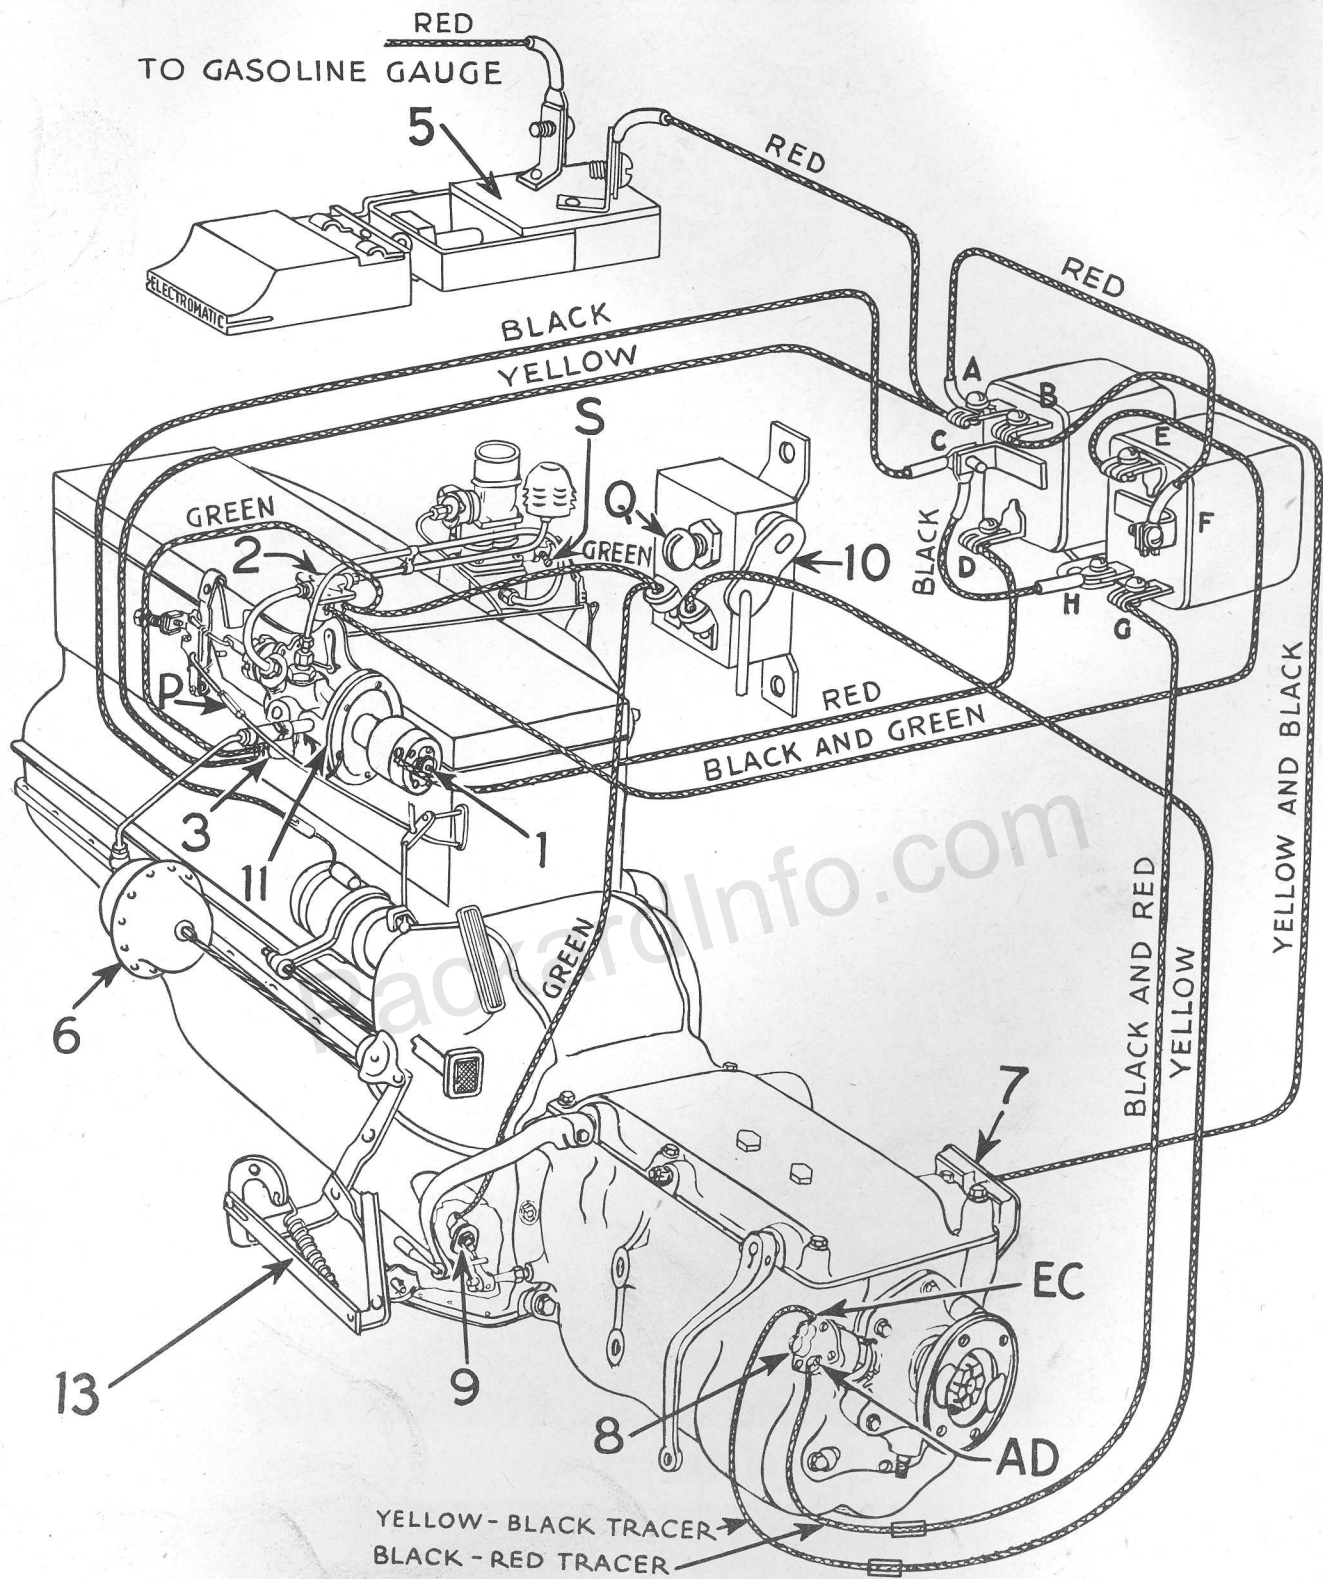
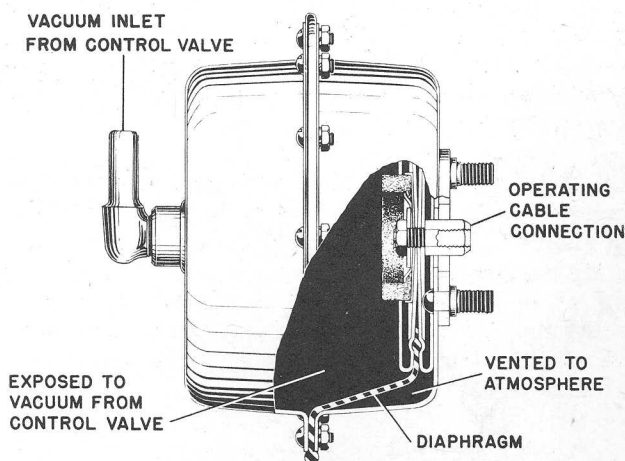
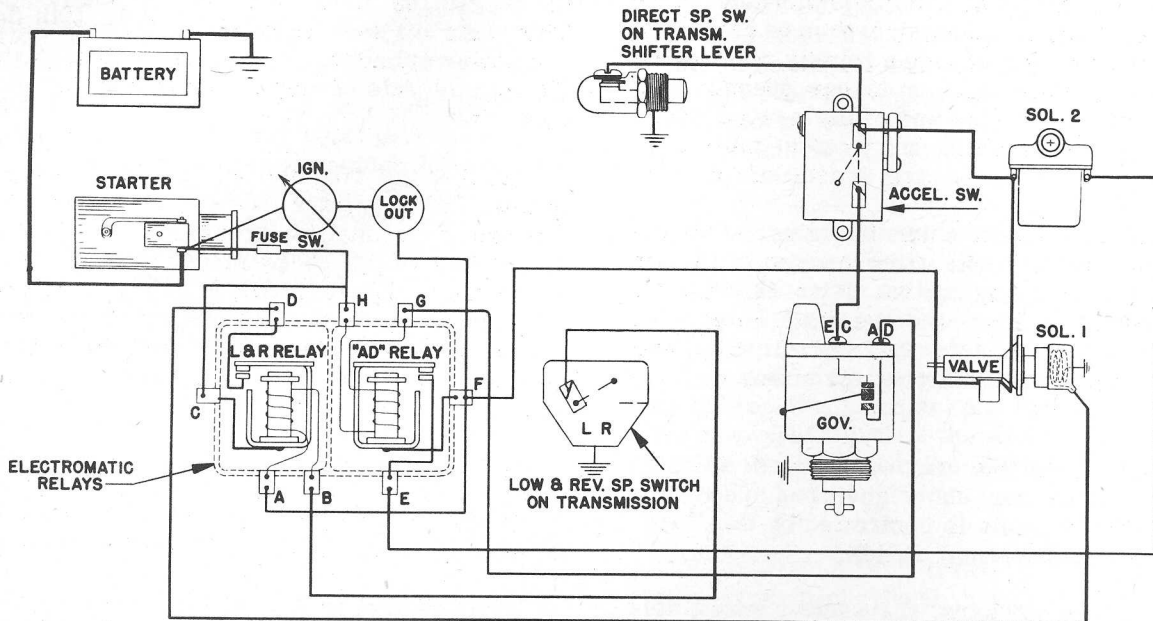
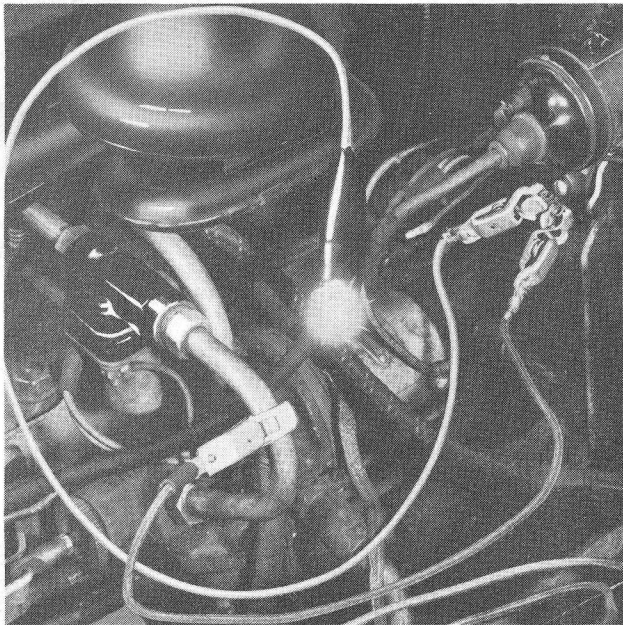

Figure 1—Schematic Diagram of 20th Series Electromatic Clutch
Figure 2—Cutaway of Clutch-Operating Power Cylinder Showing Details of Construction
Figure 6—Schematic Wiring Diagram of 20th Series Electromatic
Figure 18—Light Should Be On with Accelerator Released—Go Off as Lost Motion Is Taken Up
- a. The power cylinder (6, Fig. 1).
- b. The clutch control valve (11, Fig. 1).
The power cylinder (6, Fig. 1) engages and disengages the clutch by means of a flexible steel cable, one end of which is attached to the cylinder diaphragm. See Fig. 2.
The clutch pedal to relay lever link (13, Fig. 1) is slotted at its forward end to permit the power cylinder to move the relay lever without movement of the clutch pedal.
The smooth engagement of the clutch in all gears and under all driving conditions is made possible by use of an Electromatic clutch valve (11, Fig. 1).
A hollow piston type valve (called the spool valve) operating in a diaphragm controlled sliding sleeve, connects either the vacuum or air bleed to the power cylinder. See Fig. 2. This spool valve is hollow and flanged at each end to form an annular passage to connect various ports in the control valve sleeve.
An electrically controlled vacuum shut-off valve, called the direct speed solenoid valve (3, Fig. 1), is fitted to the control valve. Its function is to either shut off or admit vacuum to the control valve and power cylinder.
Two single unit relays (Fig. 1) located under the bonnet on the front side of the dash are provided to make contacts for the electrical modifying controls. In operation, closing a switch causes a small current to flow through the winding of the relay (Fig. 6). This current energizes the coil of the relay causing a set of contacts to close. These contacts are capable of carrying the high amperage necessary to operate the electrical modifying units.
The low and reverse solenoid is controlled by the low and reverse switch (7, Fig. 1) which is located on the transmission cover and is operated by the low and reverse shifter shaft. The solenoid is energized only when the gearshifter lever is in low or reverse. The solenoid is de-energized at all other times.
erned speed without some device to cancel the effect of the governor switch. The direct speed switch (9, Fig. 1) is provided for this purpose. The direct speed switch is connected in parallel with the governor switch so that when the direct speed switch contacts are closed they will complete the ground circuit for the direct speed solenoid. This will energize the direct speed solenoid and make the Electromatic mechanism operative even though the governor "EC" contacts are open.
The direct speed switch is a plunger type switch, mounted on a bracket attached to the transmission case and is operated by the direct and second speed shifting lever rod end (9, Fig. 1). The switch is so adjusted that when the shifting lever is moved to the high gear position, the rod end pushes the plunger in, opening the switch contacts. This breaks the direct speed solenoid circuit and locks out the Electromatic mechanism.
With only the controls described, the clutch would be disengaged each time the accelerator was let up below governed speed. This is prevented by the use of an accelerator switch (10, Fig. 1) connected in series with the governor "EC" contacts.
The second speed solenoid valve is an electrically operated choke valve located in the air bleed line to the clutch control valve (2, Fig. 1). When energized, the second speed solenoid valve restricts the air flow to the control valve and power cylinder, thus delaying the clutch engagement.
On 20th Series cars, the second speed solenoid circuit is completed to ground through the direct speed switch (9, Fig. 1). This arrangement makes the second speed solenoid valve operate above governed speed in any except high gear.
Lockout Circuit, 20th Series Cars: (Fig. 6.)
Low and Reverse Solenoid Circuit, 20th Series: (Fig. 6)
Current will then flow from the battery through the fuse and main feed cable to the "C" terminal of the relay (Fig. 6). From the "C" terminal, the current flows to the soldered connection on the frame of the "L & R" relay, through the frame to the relay contacts, through the closed contacts to the "D" terminal of the relay, and then through the low and reverse solenoid windings to ground.
(Fig. 6)
When the car is traveling above governed speeds, the centrifugal force of the governor flyweights will cause the governor "AD" contacts to close (Fig. 6).
Current then flows from the battery through the fuse and main feed cable to the "H" terminal of the relay and then through the "AD" relay coil to the "G" terminal. From the "G" terminal the current flows through the governor "AD" contacts to ground. Current flowing through the "AD" relay coil will energize the relay, closing the relay contacts (Fig. 6).
With the "AD" relay contacts closed, current will then flow from the battery through the ignition switch and the lockout switch to the "F" terminal of the relay. From the "F" terminal the current flows to the soldered connection on the frame of the "AD" relay through the frame and the closed "AD" relay contacts to the "E" terminal of the relay. From the "E" terminal the current continues to one terminal of the second speed solenoid, through the solenoid winding, out the other terminal and then to ground through the direct speed switch which is closed in all except high gear (Fig. 6). Current flowing through the second speed solenoid energizes it, closing the second speed solenoid valve.
terminal (Fig. 18). Clip the other lead of the test light to the relay main feed terminal (C, Fig. 6). With the accelerator pedal released, the light should burn.
Check and readjust as per instructions (Fig. 18).